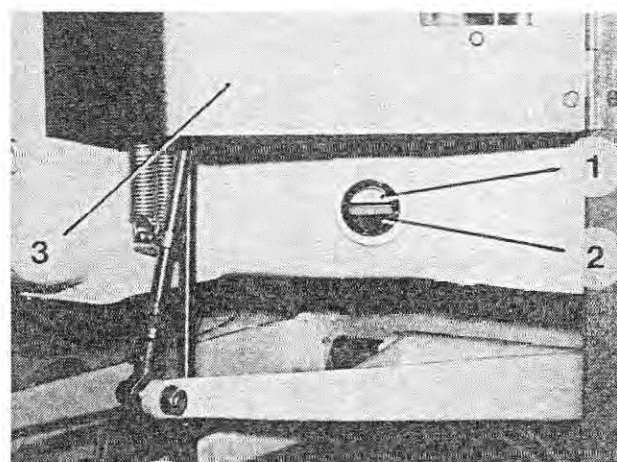
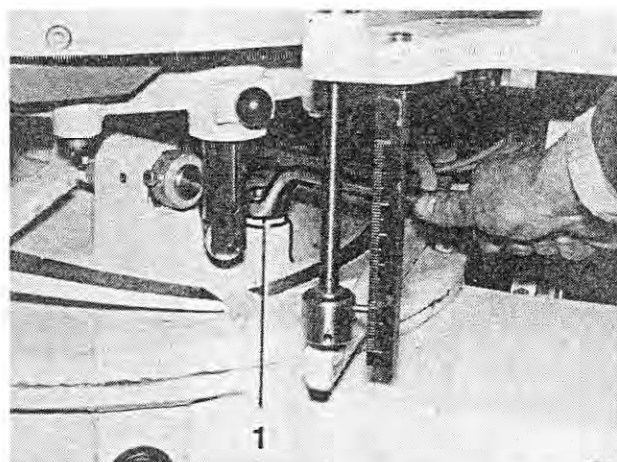

Fig. 60
Fig. 61
1. Check the oil level in the inspection glass. The level must be between the maximum (Figure 60/1) and the minimum mark (Figure 60/2).
2. To top up with oil, open the door (Figure 60/3). Unscrew the filling plug (Figure 61/1) and top up with oil up to the maximum mark. (Refer to section 1.2 for lubricants.)